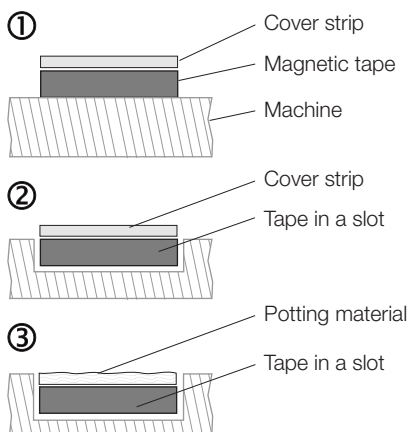

Fig. 4-3: Tape installation options
For normal ambient conditions glue the tape down to a level surface. Optionally the cover strip can be glued on for protection (see Fig. 4-3, Pos. 1).
For harsh ambient conditions embed the tape fully in a somewhat deeper channel so that it does not extend over the surface. Optionally the cover strip can be glued on (see Fig. 4-3, Pos. 2).
Under extreme ambient conditions embed the tape fully in a somewhat deeper channel and fill it with non-magnetic material. The potting material can be leveled by lightly sanding (see Fig. 4-3, Pos. 3).
- Mounting possibilities (see Fig. 4-3): Glue to the surface or recess in a slot and glue.